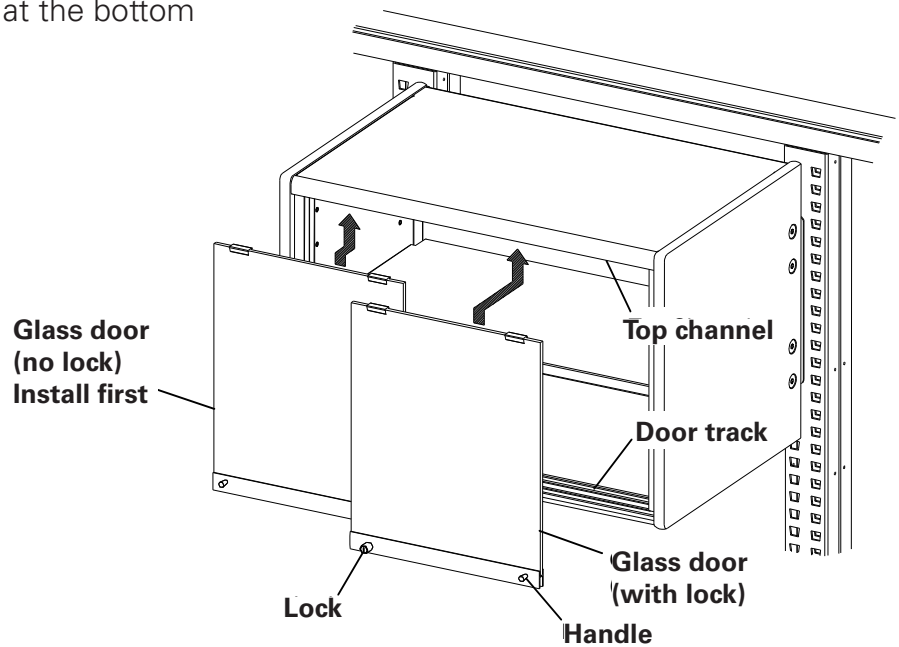

Figure 11a
5. Install the Glass Doors as shown in figures 11a and 11b. Insert the tops of the doors into the Top Channel and engage the wheels at the bottom of the doors with the Door Track.